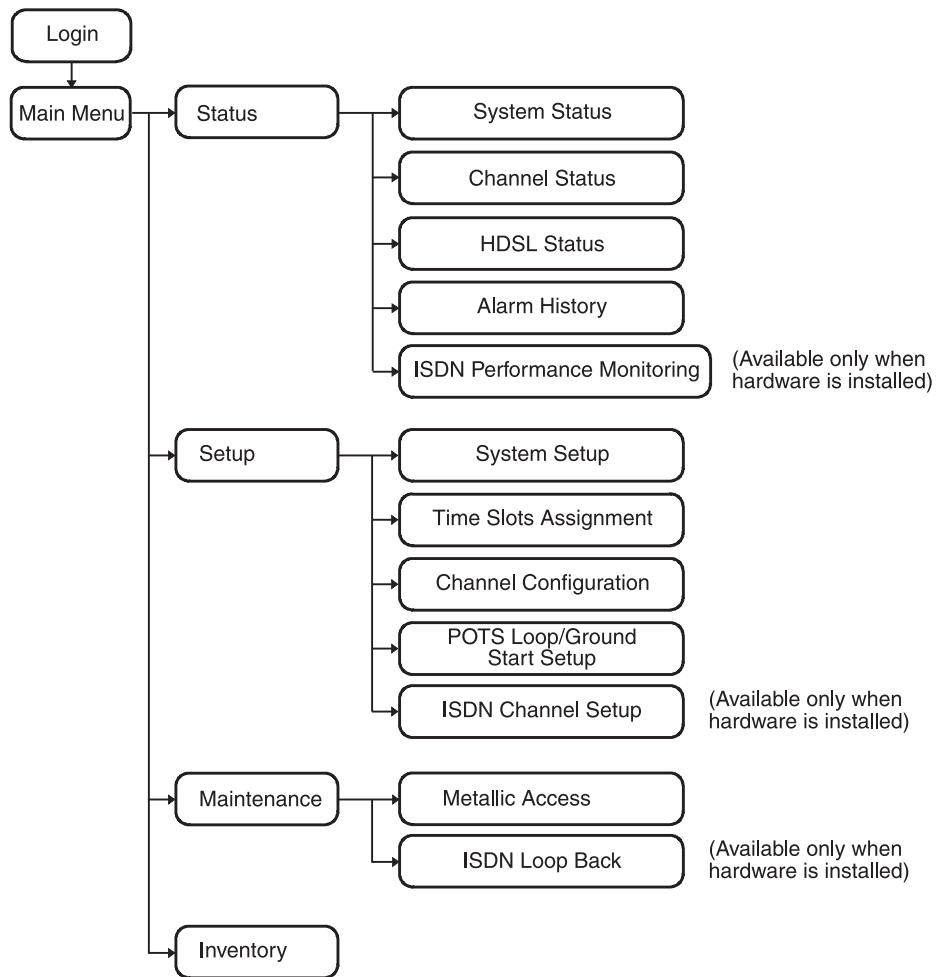

Figure 6. Terminal Menu and Display Structure
6.3 Menus and Display Structure. Figure 6 shows the menu structure of the terminal management system.